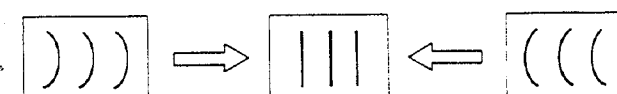

Fig. 28-6
2. Minimize the Y.BOW distortion with Y.BOW (RV13) on the D board as shown in Fig 28-6.